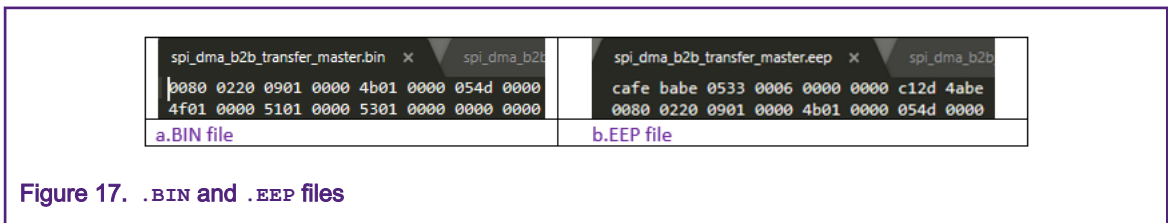

Figure 17. .BIN and .EEP files
- As shown in Figure 17, the bin file was packet with SIGNATURE and HEADER.